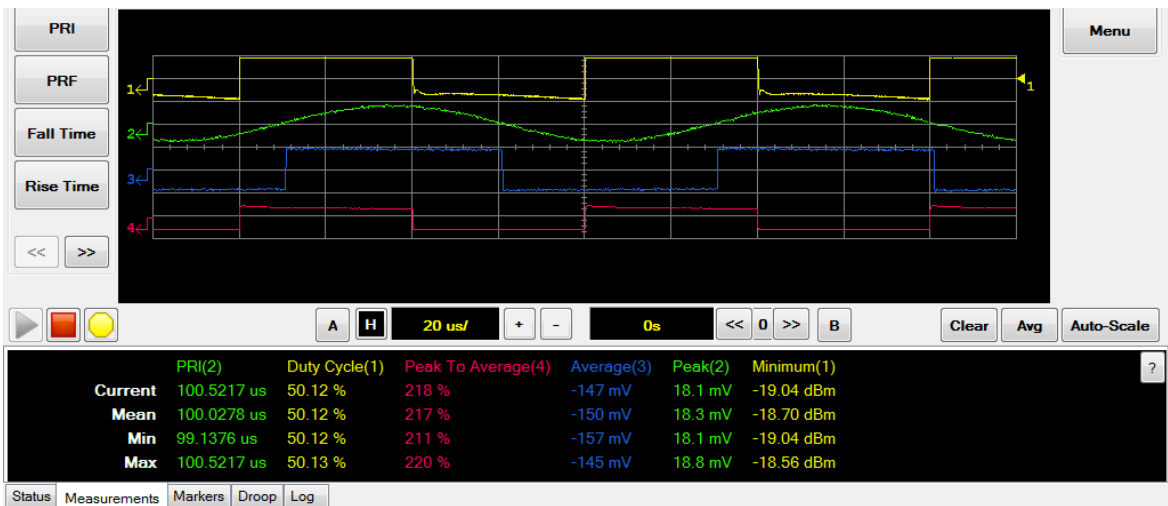

Figure 2-61 Measurement view in zoom display layout
- 2 A rectangle frame is displayed at the main graph window to indicate the area that is magnified as shown in Figure 2-61. The magnified section of the waveform is displayed below the main graph.
- 4 The Measurement view on the Multi-Purpose pane will display the measurement results of the magnified section of the waveform as shown in Figure 2-61.